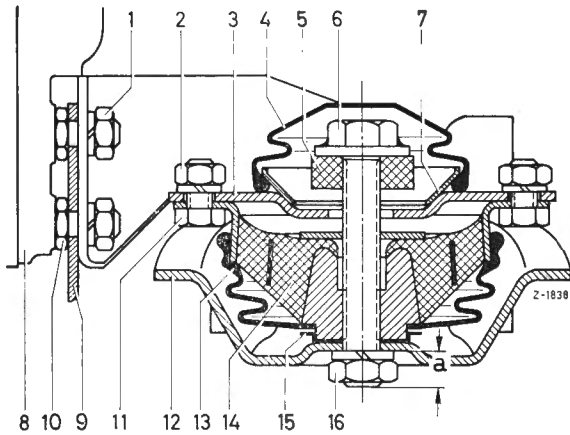

Fig. 24-1/2
8. Attach the rubber mounting (14) to the engine support (3), and put on the bellows (13) and the sheet-metal cover (15) (Figs. 24-1/2 and 24-1/3, /4).
On Models 220 SEb and 300 SE Convertible and Model 230 SL adjust the limit stop. To do this screw in the hexagon screw (6) until dimension "a" is reached (Fig. 24-1/3 or /4 and Job No. 22/24-0). Then lock the screw (6) with the lock nut (16 or 20). Put on the bellows (4) and push on the spacer ring (17).